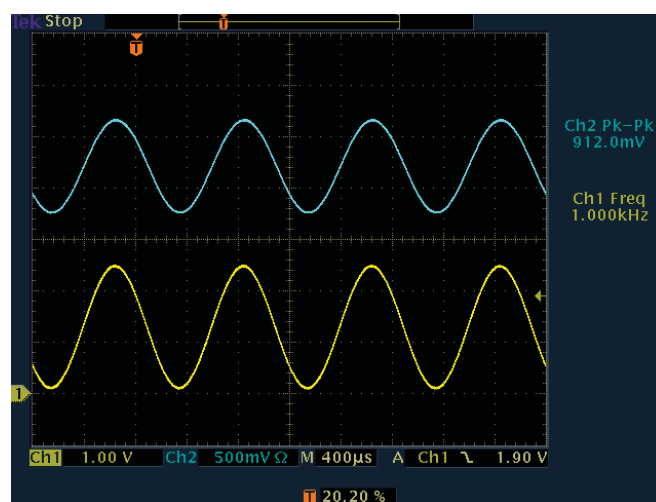

Figure 1. Low Frequency Performance, CW Mode, Analog Modulation
Channel 2 (blue trace) in Figure 1 shows the photodetector output of a laser being modulated from 100 to 150mA at 1kHz. Channel 1 is the input modulation signal. The LDC-3724B is operating in low bandwidth (CW) mode and 200mA range with a CW setpoint of 100mA.